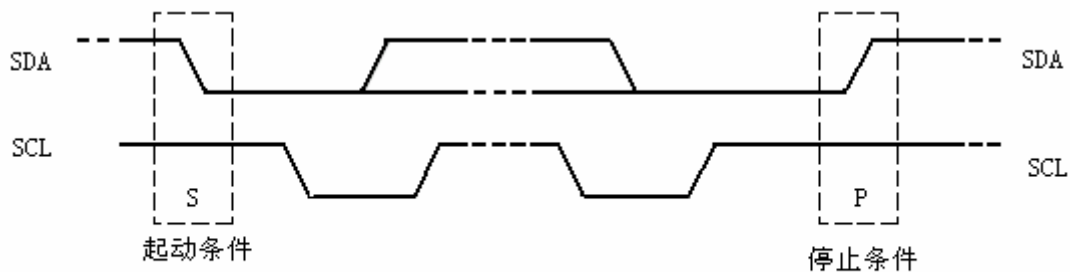

图11: I2C总线的起动 (START) 和停止 (STOP) 条件定义
The rising edge of the data line, clock line stop condition (P) see FIG. 11 at a high level.